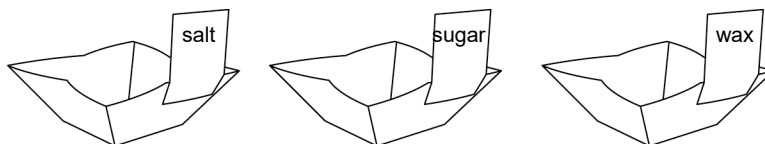

Figure 1: Use tape to create labels for three foil dishes
3. Fold three pieces of aluminum foil into small dishes. Use tape to label the dishes *salt*, *sugar*, and *wax* as shown in Figure 1. Position the label as shown so that it will not directly touch the heating surface when the dish is placed on the hot plate.